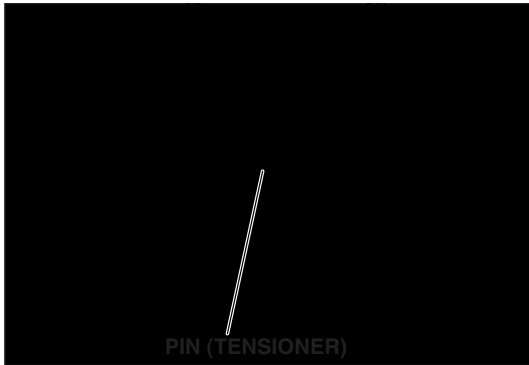
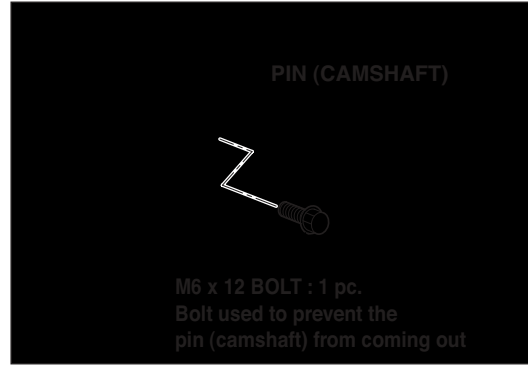
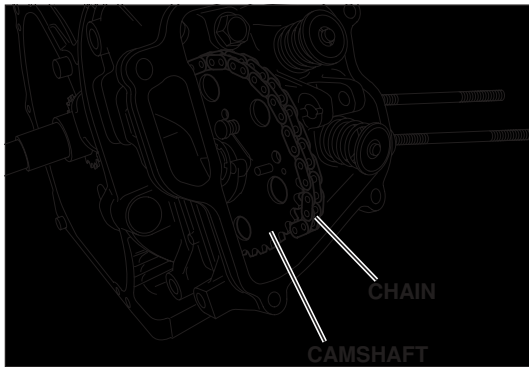

Fig.5-18a
Fig.5-18b
Fig.5-19
| 22 | Tensioner, Camshaft | (1) Remove the tensioner. (See Fig. 5-18a) ※ Do not lose the pin (tensioner). (2) Remove the retaining bolt of pin (camshaft) from the cylinder head. (See Fig. 5-18b) (3) Remove the pin (camshaft), taking care not to scratch the O-ring. (4) Remove the chain from the camshaft sprocket and then take out the camshaft. (See Fig. 5-19) (5) Remove the chain from the crankshaft. | M10 box spanner or spanner M6 × 12mm : 1 pc. |